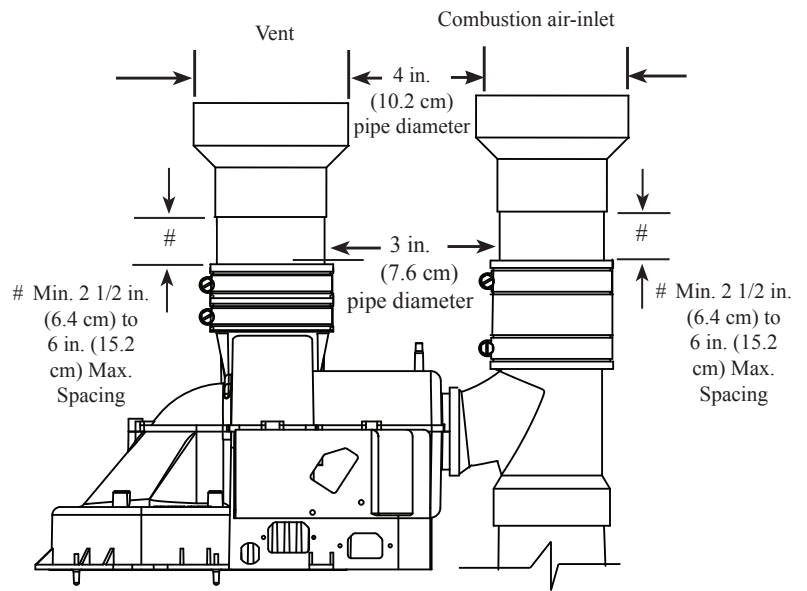

Figure 4
- Followed by a 3 in. (7.6 cm) to 4 in. (10.2 cm) diameter pipe increaser fitting (See Figure 4).